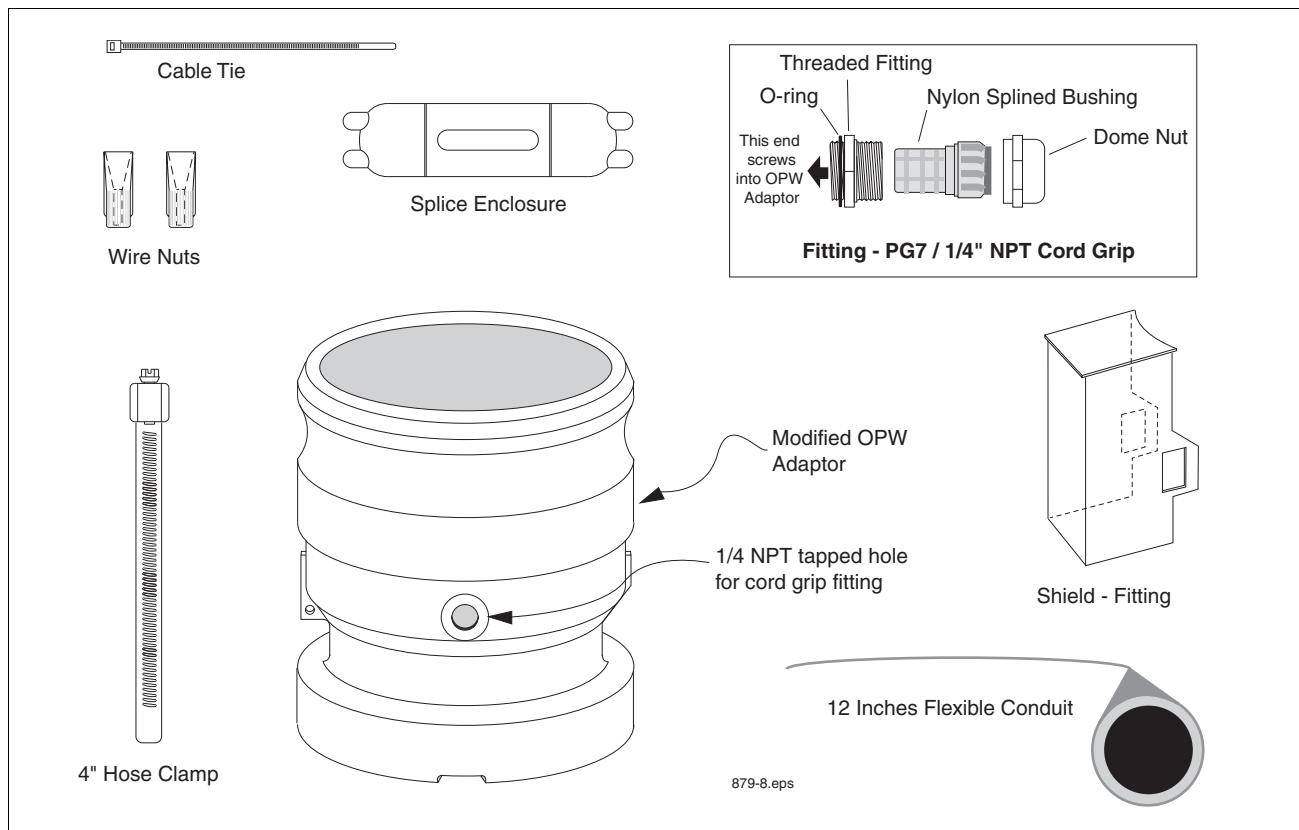

Figure 11. Mag Probe Vapor Extractor W/coupling Adaptor Installation Kit
This kit contains parts needed to install a Mag Probe into a Vapor Extractor Riser that has a Coupling Adaptor (parts listed in Table 7 and shown in Figure 11):
10. Slip the PG7 cord grip fitting (o-ring end first) over the cable and screw it into the tapped hole in the Coupling Adaptor (ref Figure 11 on page 20 for the correct PG7 cord grip assembly). Tighten snugly - **Be careful not to overtighten**. Slide the domed nut of the PG7 fitting down the cable and tighten securely onto the PG7 fitting so that the cable stays firmly in place. **Again, be careful not to overtighten**.